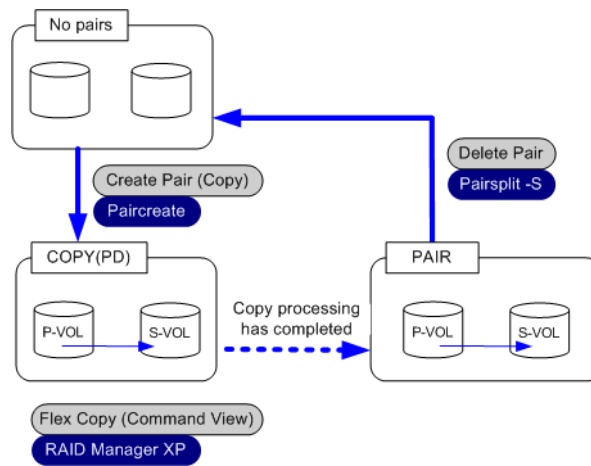

Figure 321: Transitions of Flex Copy Pair Status
- When you perform operations on the copy pair using RAID Manager XP, additional types of pair status values may occur that do not appear in Figure 321. This is because those operations correspond to Business Copy XP operations.